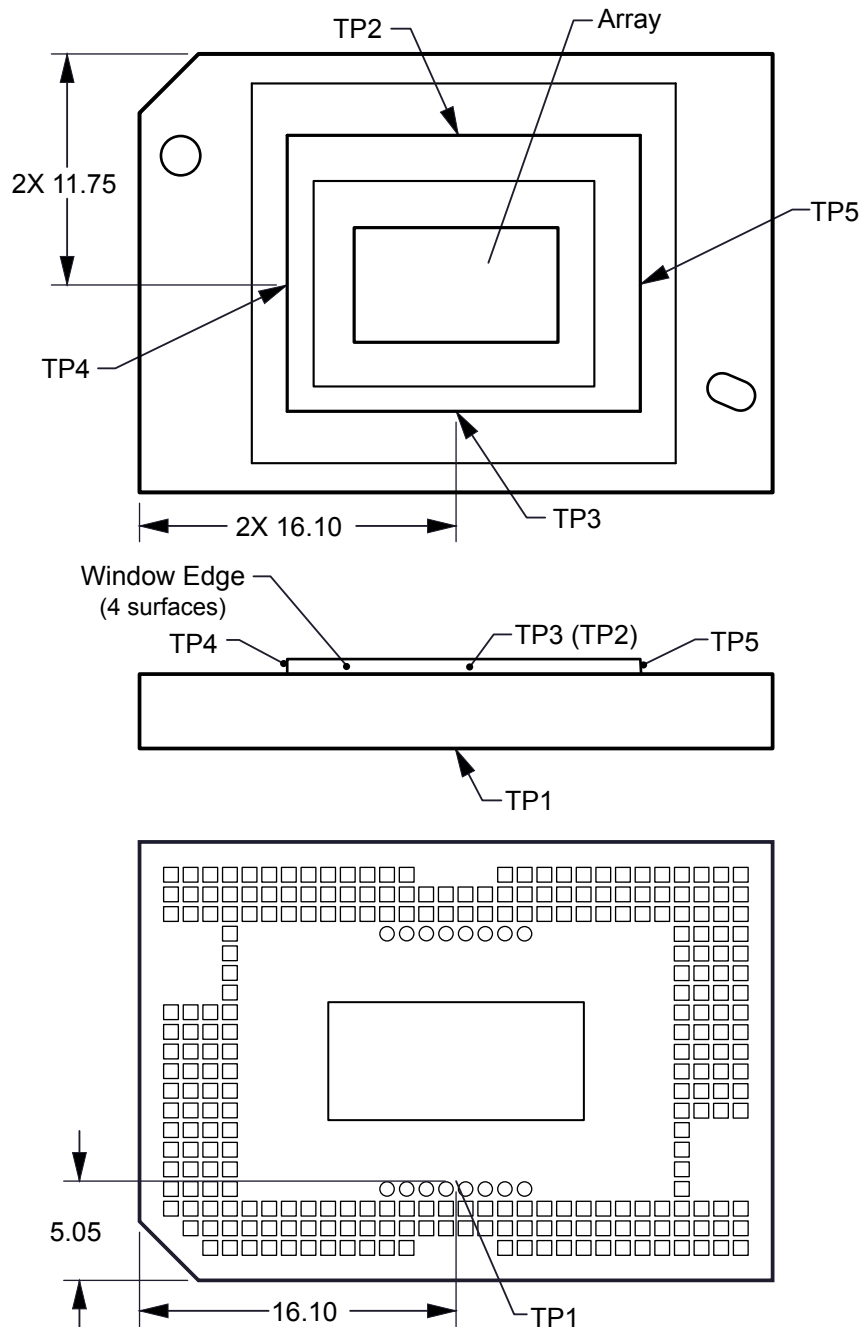

图 6-1. DMD Thermal Test Points
Micromirror array temperature cannot be measured directly, therefore it must be computed analytically from measurement points on the outside of the package, the package thermal resistance, the electrical power, and the illumination heat load. The following equations show the relationship between array temperature and the reference ceramic temperature, thermal test TP1 图 6-1 shown above:
- T_{CERAMIC} = Measured ceramic temperature (°C), TP1 图 6-1
- $R_{\text{ARRAY-TO-CERAMIC}}$ = Thermal resistance of package specified in 节 5.5 from array to ceramic TP1 图 6-1 (°C/W).
- Q_{ARRAY} = Total DMD Power (electrical + absorbed) on array (W).
- $Q_{\text{ELECTRICAL}}$ = Nominal electrical power (W)
- Q_{INCIDENT} = Incident illumination optical power (W)
- $Q_{\text{ILLUMINATION}}$ = (DMD average thermal absorptivity \times Q_{INCIDENT}) (W)